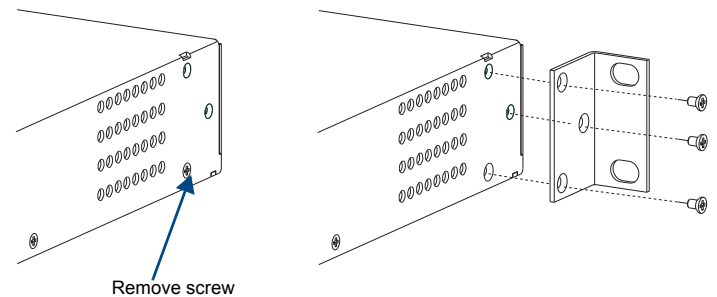

FIG. 3 Remove screw (do not re-use) & attach rack ears
1. Remove one screw from each side of DAD (FIG. 3) Do not reuse for rack ear.
2. Attach the rack ears as shown in FIG. 3 (screws provided).